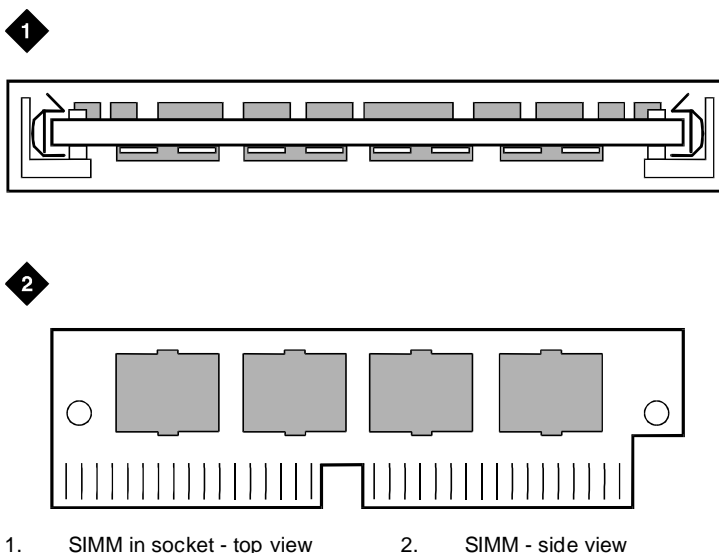

Figure 7-7. SIMM Socket
1. Release the metal snap locks at the edge of the SIMM2 socket by gently pushing them to the outside (Figure 7-7).